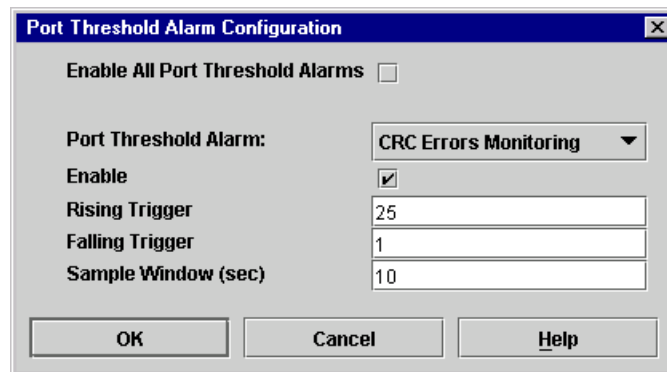

Figure 2-33. Port Threshold Alarm Configuration Window
1. In the Faceplate window, open the Switch menu and select **Port Threshold Alarm Configuration**. The Port Threshold Alarm Configuration window shown in Figure 2-33 prompts you to enable or disable all alarms, select an event, set triggers, set a sample window and enable or disable an individual alarm.